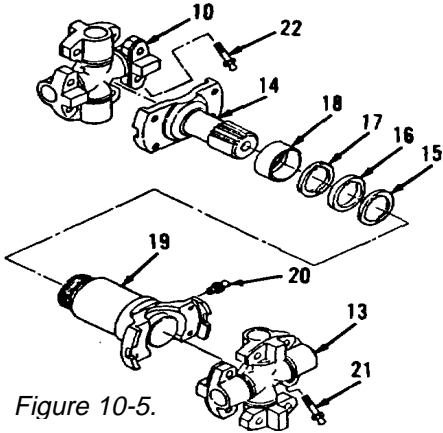

Figure 10-5.
5. Remove washer (15), seal (16), washer (17) and retainer (18) from yoke (14, Figure 10-5). Discard seal (16).
6. Remove fitting (20) from yoke (19).
7. Remove fitting (21) from spider (13).
8. Remove fitting (22) from spider (10).